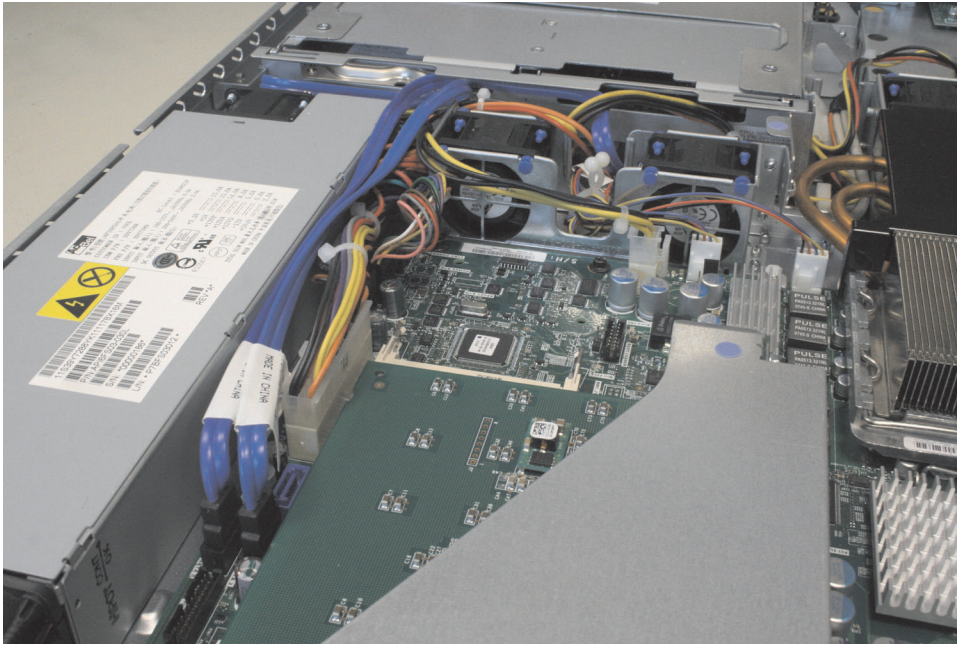

Figure 128. SAN Volume Controller 2145-8A4 SATA cables
**Note:** Make sure that the cable drive number matches the connector number on the system board. The cables will cross over each other, as shown in Figure 128 on page 140.